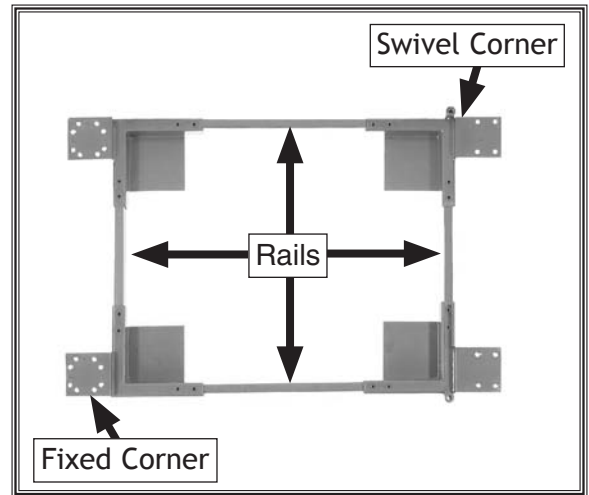

Figure 9. Side rails inserted into corner brackets (casters removed for clarity).
5. Slide each side rail inside a corner bracket, as shown in **Figure 9**.